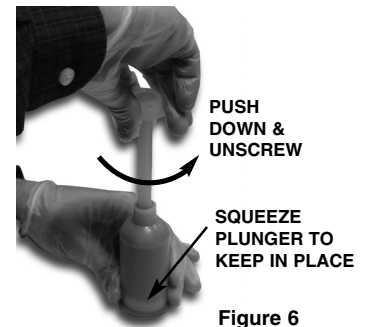

Figure 6
10. At the last stroke, push the mixing rod all the way in to the bottom (red side), grasp the cartridge firmly at the bottom to hold plunger in place and immediately unscrew the mixing rod and remove carefully. See Figure 6.